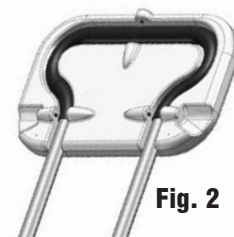

Fig. 2
2. Place the Pilates Bar into the indentation area. See Fig. 2.